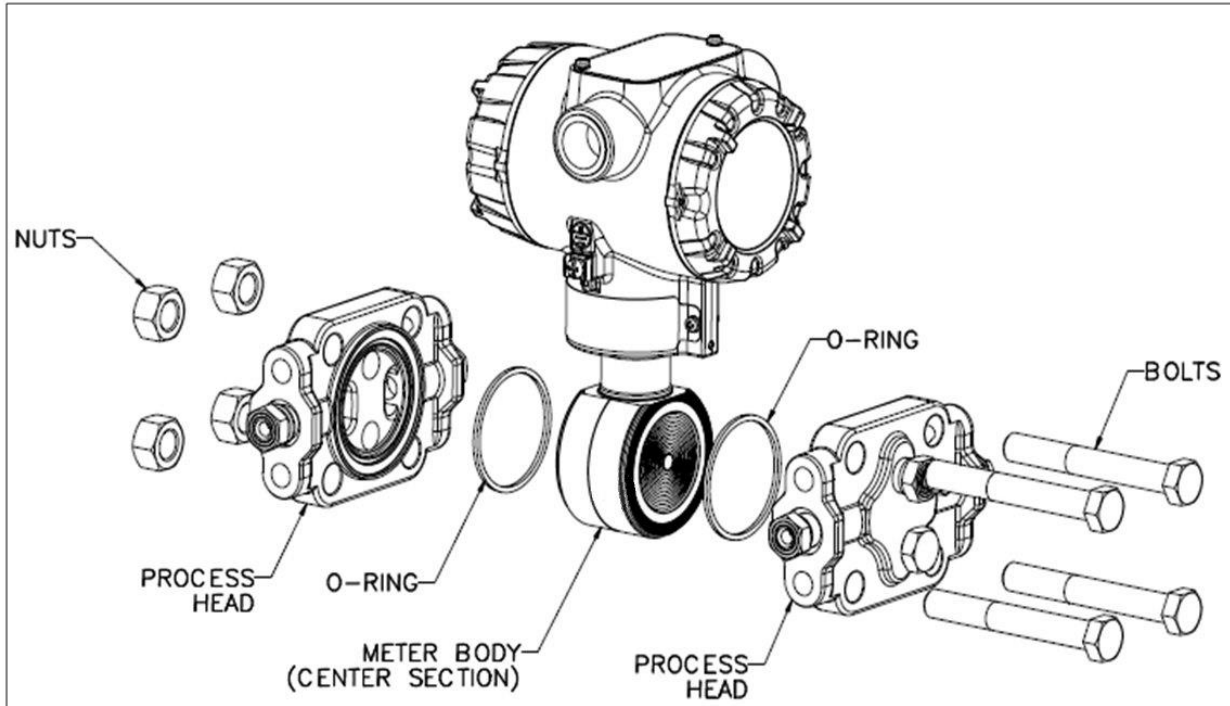

Figure 22 – ST 700 Standard Transmitter - DP Transmitter Head Disassembly
The following procedure comprises the general steps for inspecting and cleaning barrier diaphragms. You may have to modify these steps to meet your particular process or transmitter model requirements. Figure 22 shows an exploded view of a Differential Pressure (DP) transmitter meter body for reference. For disassembly/reassembly purposes, Gauge Pressure (GP) and Absolute Pressure (AP) transmitters are similar.